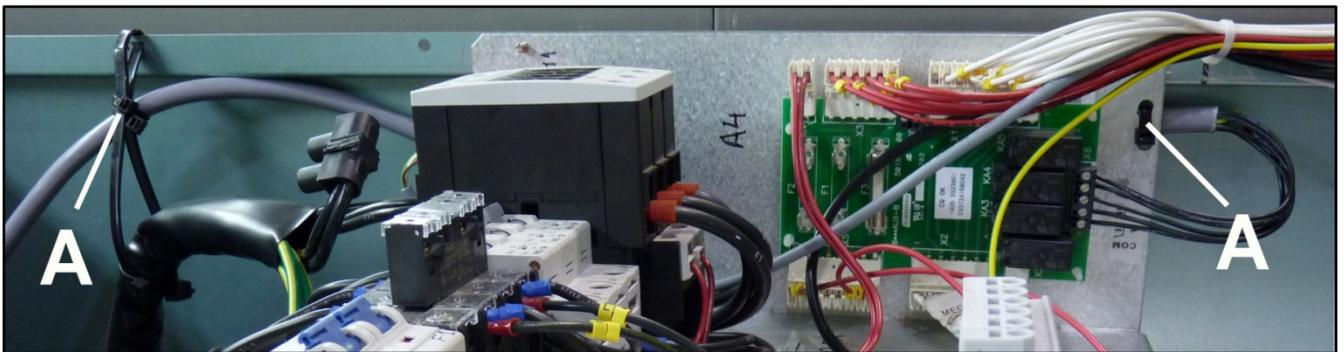

Fig.3.14
- In models **RMS/RMG628** and **REM/RMG070**, secure the conductor using the cable ties on the outside of the electrical cabinet, as shown in Fig. 3.14/A.